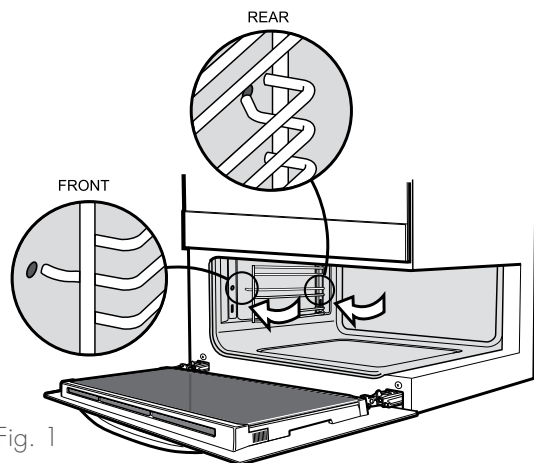

Fig. 1
- When locating the side racks into the small oven or grill ensure the left pegs go into the lower two access holes. (Refer Fig. 1)